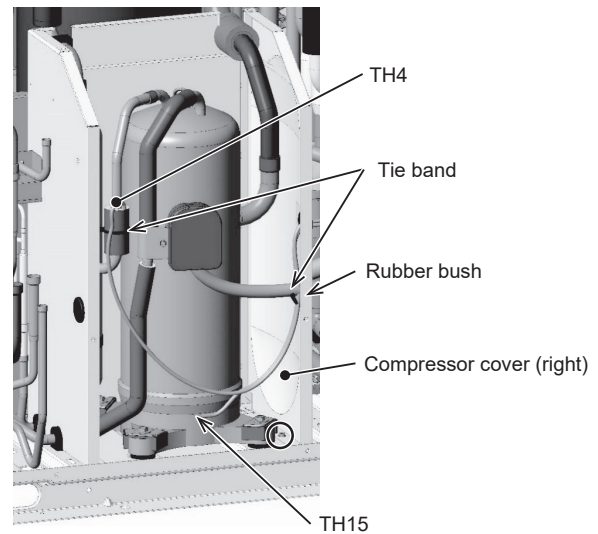

Figure 3
- (3) Cut the tie bands holding TH4 and TH15, and remove the wires through the rubber bushes on the right compressor cover. (2 tie bands, Figure 3)
- (4) Remove the right compressor cover. (1 screw, Figure 3)